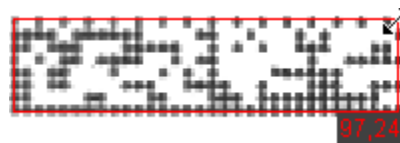

Figure 3-7: Editing 2D Data Matrix Size (Shown at 200% Zoom)
- If '2D, Sym T7 Data Matrix' is the selected **Mark**, Size defines the height and width expected for the entire 2D symbol. To set the size for 2D symbols, position the Size box so that it aligns with the centers of the corner cells of the matrix, as shown in Figure 3-7.